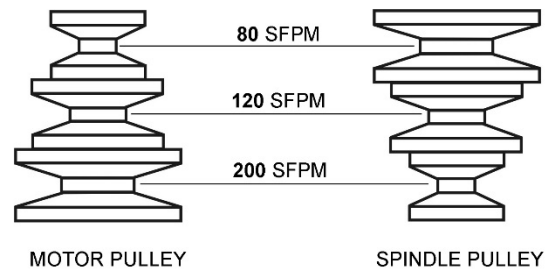

Figure 13
4. Open pulley cover. Lift motor with one hand while placing belt on desired pulley combination. Refer to chart inside pulley cover or Figure 13.
5. Tension belt by pressing down on motor while tightening hex nut (A) until finger pressure on the belt between the two pulleys causes approximately 1/2-inch deflection. Do not overtighten belt.